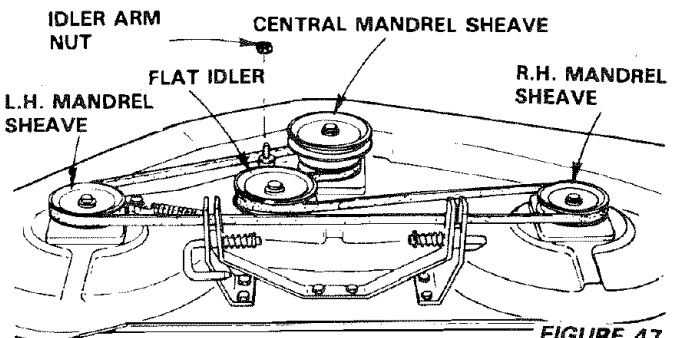

FIGURE 47
- f. Check deck idler arm assembly and flat idler to see that they rotate freely (Fig. 47).
- g. Be sure spring is hooked in deck idler arm assembly and on bolt in mower housing (Fig. 47).
- h. Install new belt in groove of L.H. mandrel sheave, lower groove of center mandrel sheave and around flat idler as shown (Fig. 47).
- i. From a position at discharge end of mower, roll belt into groove of R.H. mandrel sheave (Fig. 47).